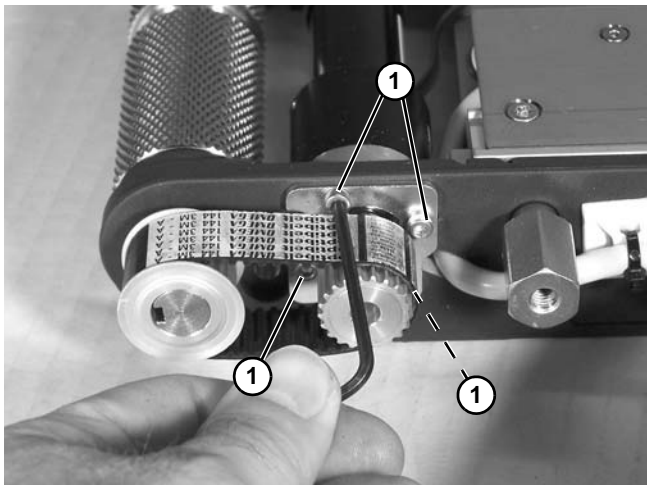

Figure 50
4. Loosen four clamp plate screws (Figure 50, item 1).